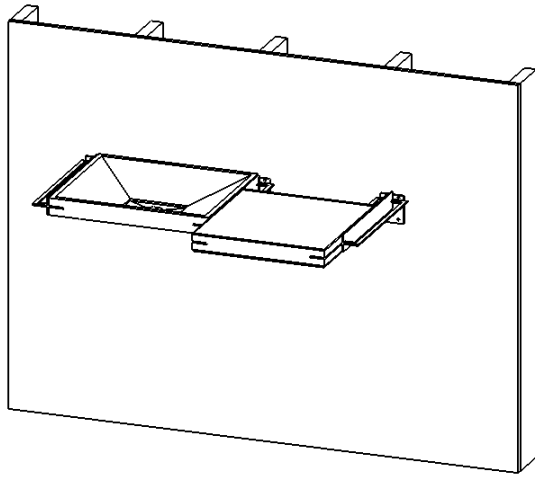

Figure 5.
11. When all brackets are installed and verified for level, square and location, begin sliding in the SYNC system components. *See Figure 5.*